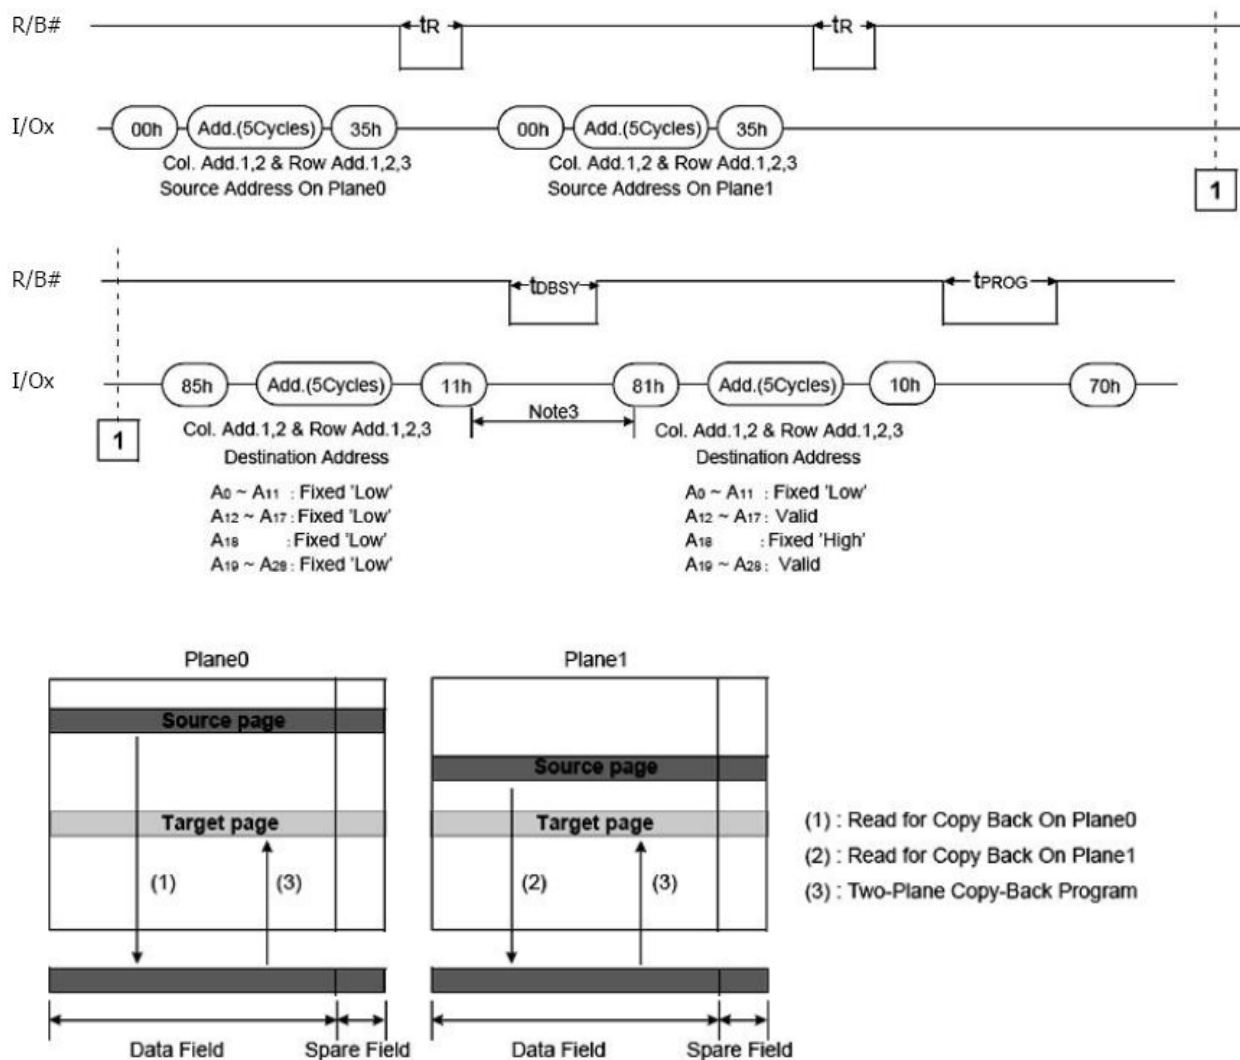

Figure 28. Multi-plane Copy Back Program (traditional protocol)
- Same restrictions on address of pages C and D, and allowed commands as Figure 28 apply